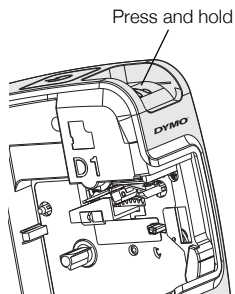

Figure 8
- 3 Press the cutter button. See Figure 8.